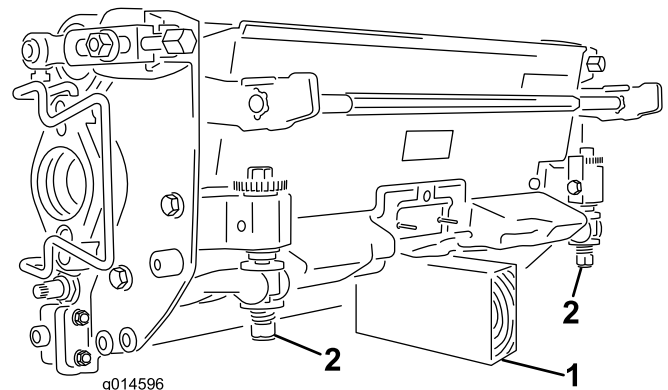

Figure 48
**Important:** Whenever you need to tip the cutting unit, prop up rear of cutting unit to ensure that the nuts on the bedbar adjusting screws are not resting on work surface (Figure 48).